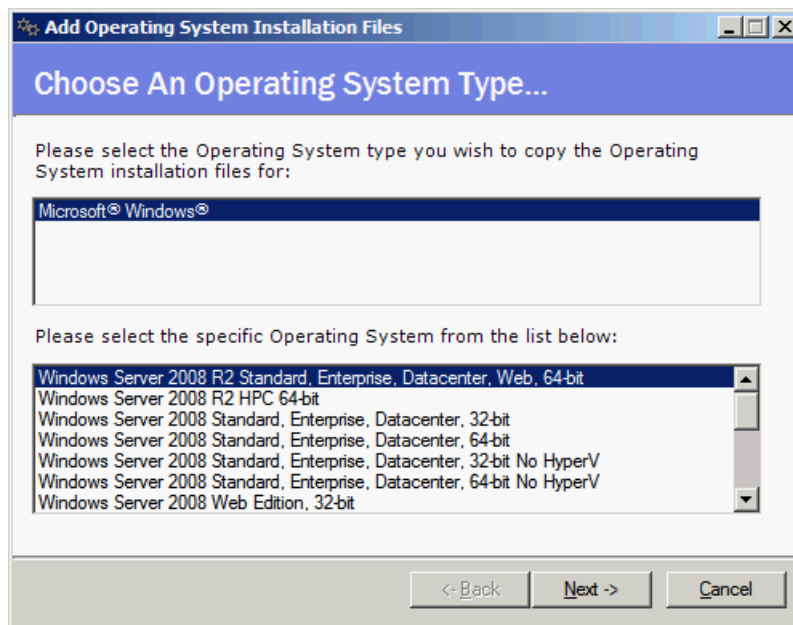

Figure 8-45 Select the type of the operating system
- c. Choose the operating system type that you want and click **Next**, as shown in Figure 8-45.